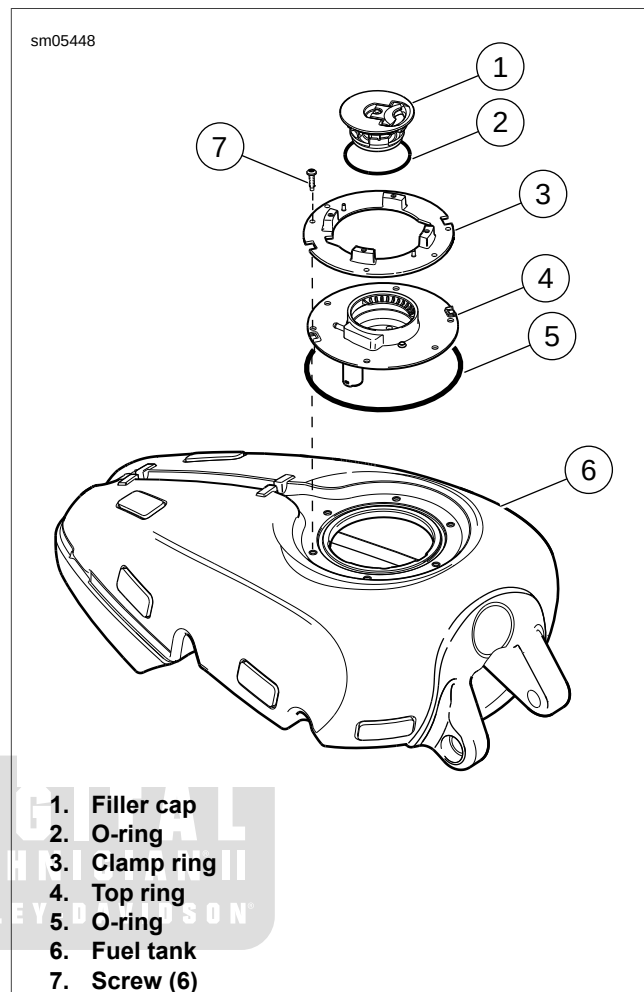
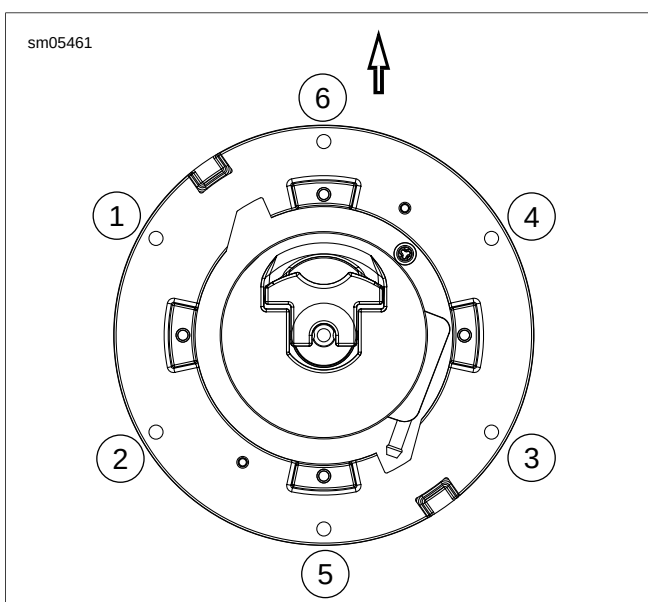

Figure 4-17. Fuel Tank Assembly
Figure 4-18. Filler Housing Torque Sequence
1. See Figure 4-17. Remove filler cap (1) with O-ring (2).
2. Remove screws (7) and clamp ring (3).
3. Remove top ring (4).
4. Remove O-ring (5).
1. See Figure 4-17. Install **new** O-ring (5) on the fuel tank (6). Verify that it is seated properly.
2. Install top ring and clamp ring with screws (7).
3. See Figure 4-18. Tighten screws in the sequence shown to 40-45 **in-lbs** (4.5-5.1 Nm).
4. See Figure 4-17. Install filler cap (1) with a **new** O-ring (2).